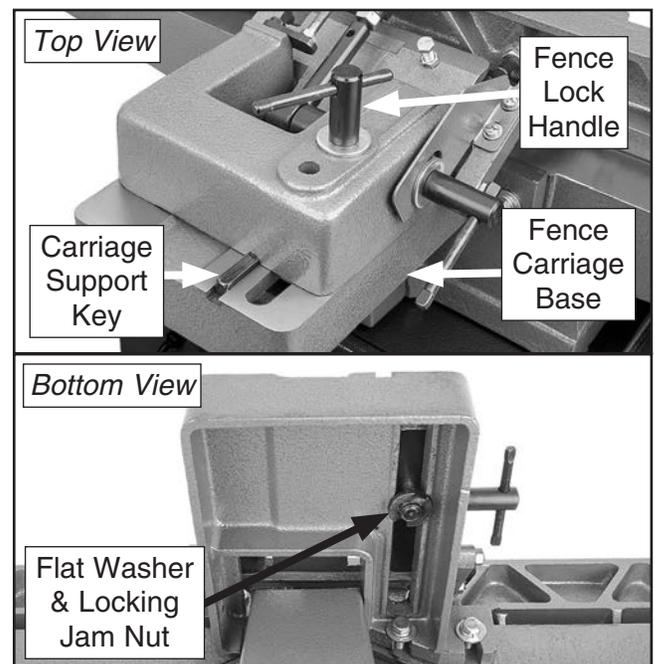

Figure 20. Fence assembly installed onto carriage base and secured.
15. Place carriage support key and fence onto fence carriage base, making sure fence fits over key (see **Figure 20**), then insert fence lock handle and secure with 1/2" flat washer and locking jam nut.